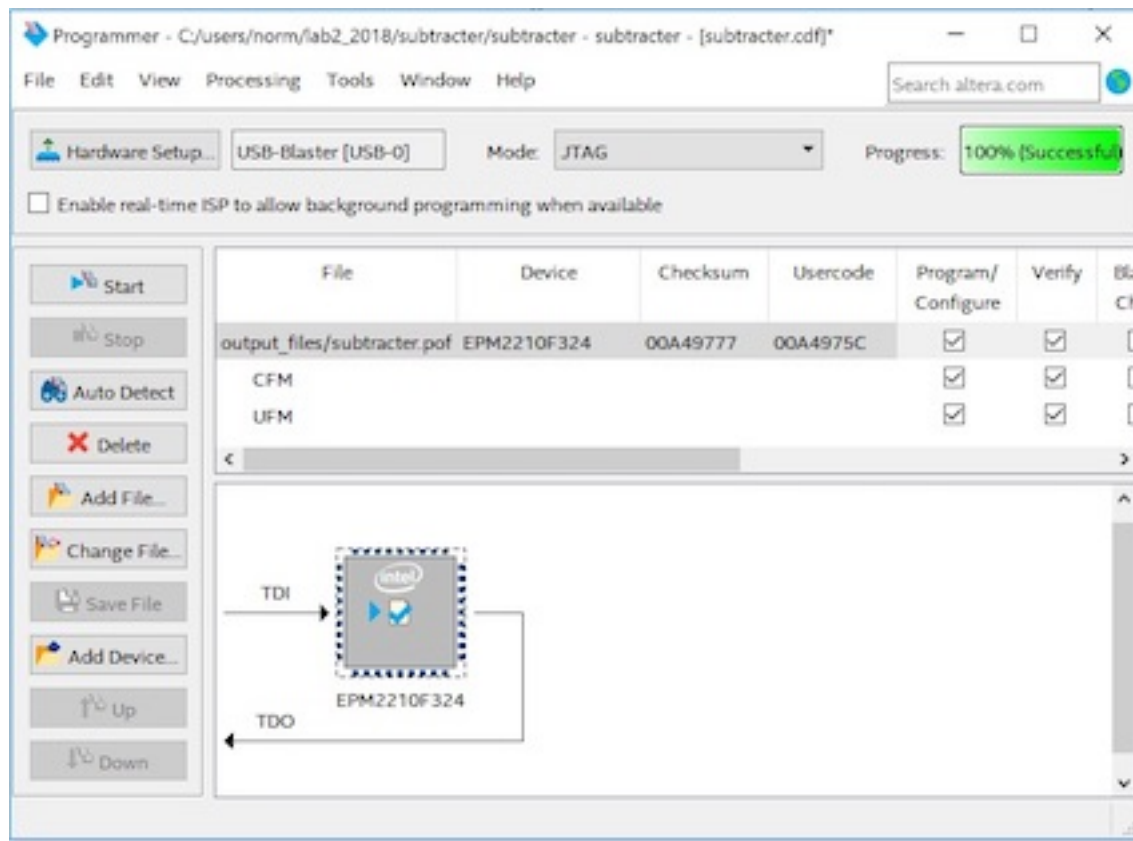

Fig. 14. A sample programmer window; make sure output file is correctly indicated, boxes are checked, and “USB Blaster [USB-0]” shows correctly
2. Start the *Quartus* programmer by selecting **Tools** \rightarrow **Programmer**. The programmer window should appear. The default hardware configuration for programming the device is at the very top of this panel, as shown in Fig. 14. Make sure “USB-Blaster [USB0]” is shown with mode “JTAG.” These settings are sensed automatically as long as the MKS is connected to the PC.
3. If your “addsub.pof” file is not shown in the programmer window in a similar way to project name shown in Fig. 14, press the “Add File” button, and select the folder “output_files”. Select “addsub.pof” and press OK. Click the boxes labeled “Program/Configure” and “Verify” beside the filename so that checkmarks are indicated. Then, hit the Start button, and device programming should commence. Watch the progress bar in the upper-right corner.